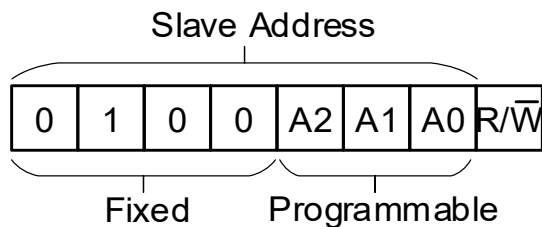

Figure 7-7. NCA9555C device address
Figure 7-7 shows the address byte of the NCA9555C. The last bit of the target address defines the operation (read or write) to be performed. A HIGH (1) selects a read operation, while a LOW (0) selects a write operation.
Data is transmitted to the NCA9555C by sending the device address and setting the least significant bit to a logic 0 (see Figure 7-7). The command byte is sent after the address and determines which register will receive the data following the command byte.
In order to read data from the NCA9555C, the bus master must first send the NCA9555C address with the least significant bit set to a logic 0 (see Figure 7-7). The command byte is sent after the address and determines which register will be accessed. After a restart, the device address is sent again, but this time the least significant bit is set to a logic 1. Data from the register defined by the command byte will then be sent by the NCA9555C (see Figure 7-11, Figure 7-12 and Figure 7-13). Data is clocked into the register on the rising edge of the acknowledge clock pulse. After the first byte is read, additional bytes may be read but the data will now reflect the information in the other register in the pair. For example, if Input Port 1 is read, then the next byte read would be Input Port 0. There is no limitation on the number of data bytes received in one read transmission, but the final byte received, the bus master must not acknowledge the data.